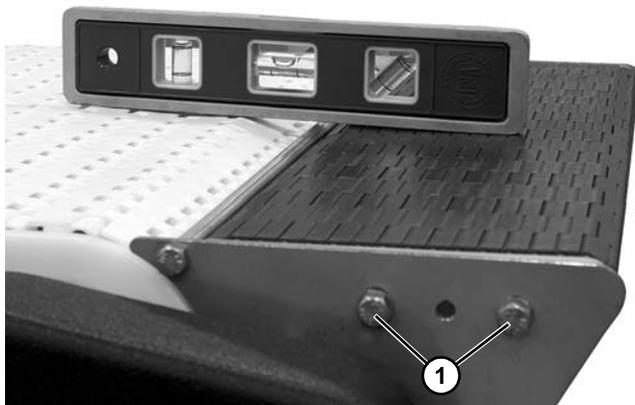

Figure 79
14. Adjust height as needed by loosening two hex head screws (Figure 79, item 1) on both sides of the power transfer. Tighten screws.